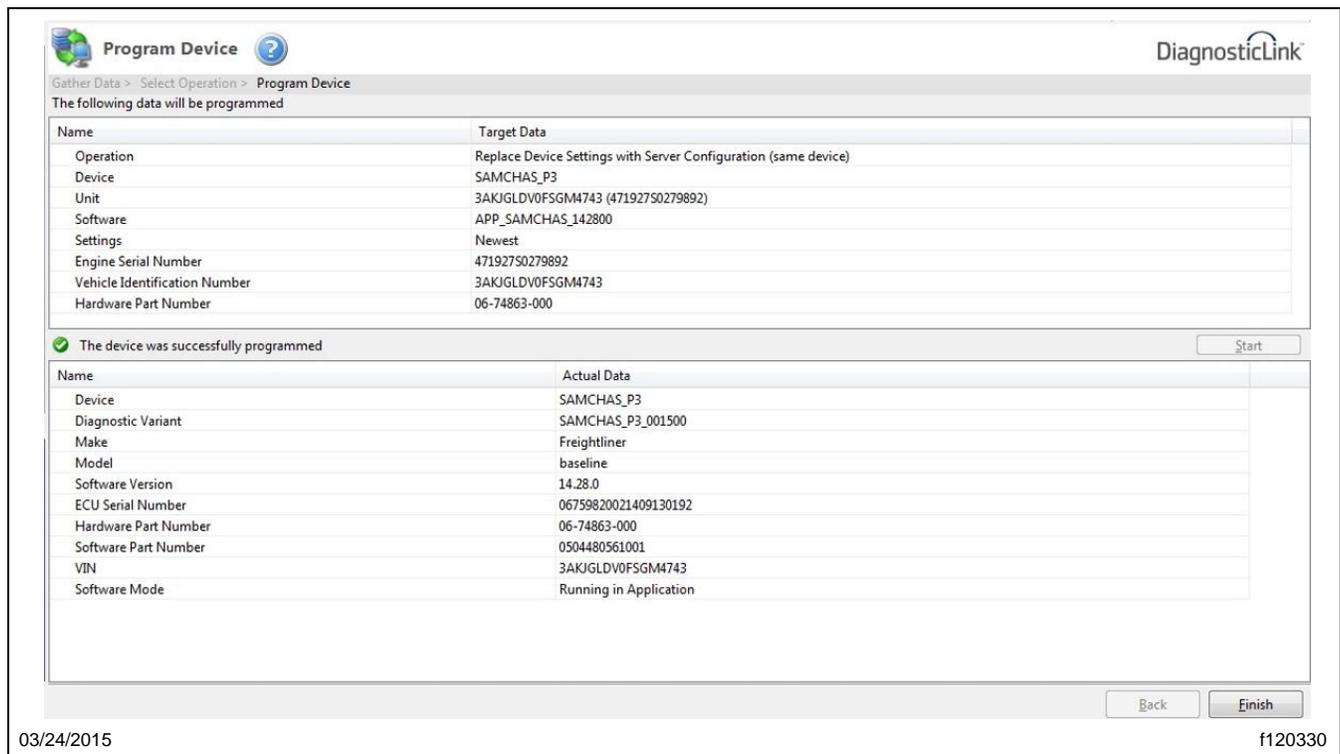

Fig. 10, New Settings
5. Once the programming steps are completed, the lower table will show the new settings programmed into the module. See **Fig. 10**.